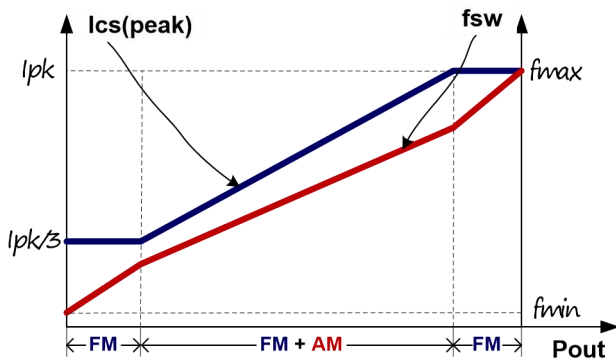

Fig.4
To meet the tight requirement of averaged system efficiency and no load power consumption, a hybrid of frequency modulation (FM) and amplitude modulation (AM) is adopted in DP3773C which is shown in the Fig 4.